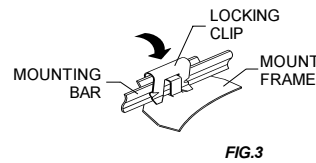

FIG.3
1. Install the locking clip. (Fig.3)